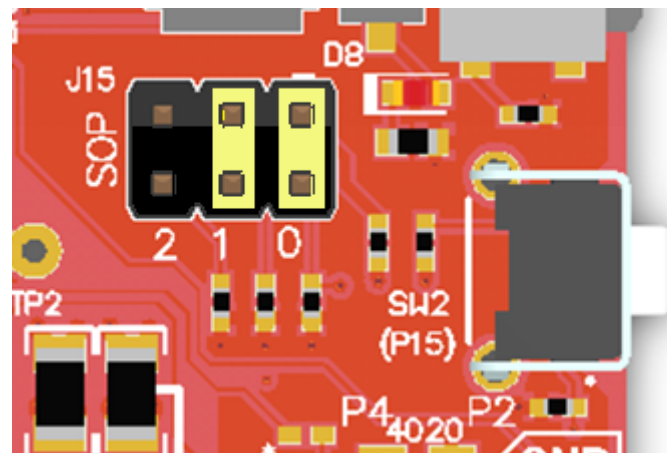

Figure 29. SOP Jumpers Configuration
1. Set the SOP to 011 (SOP2 = 0, SOP1 = 1, SOP0 = 1), and perform power on reset (POR). Device reset can be simply done by pressing SW1 Reset switch. See Figure 29 for reference of SOP jumpers.